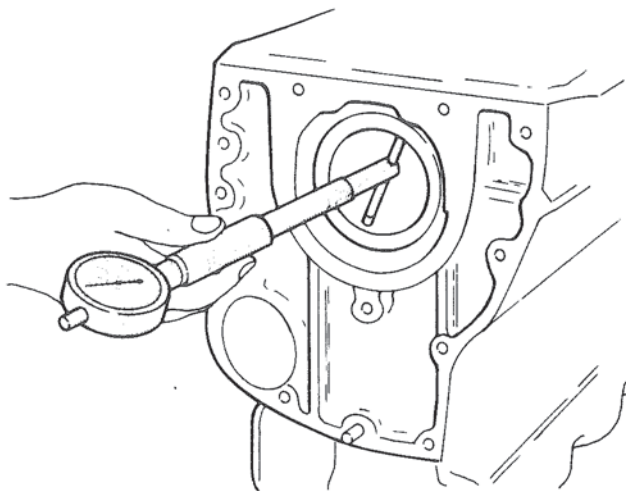

Figure 33. Measuring Inner Diameter of Main Bearing.
3. Measure I.D. of bearing. Figure 33.